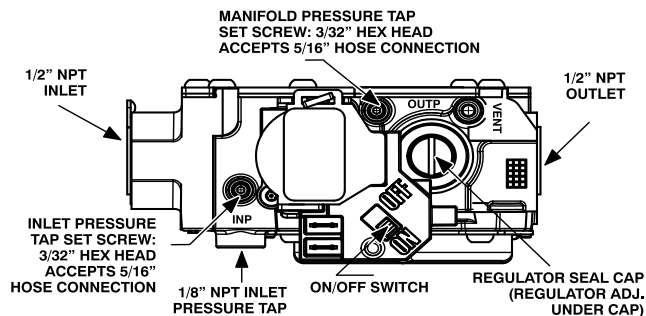

Fig. 63 – Gas Valve with Tower Pressure Ports
- h. Remove regulator adjustment cap from gas valve pressure regulator and turn adjusting screw (3/16 or smaller flat-tipped screwdriver) counterclockwise (out) to decrease input rate or clockwise (in) to increase input rate. See Fig. 63.
1. Adjust manifold pressure to obtain proper gas input rate. See Fig. 63.